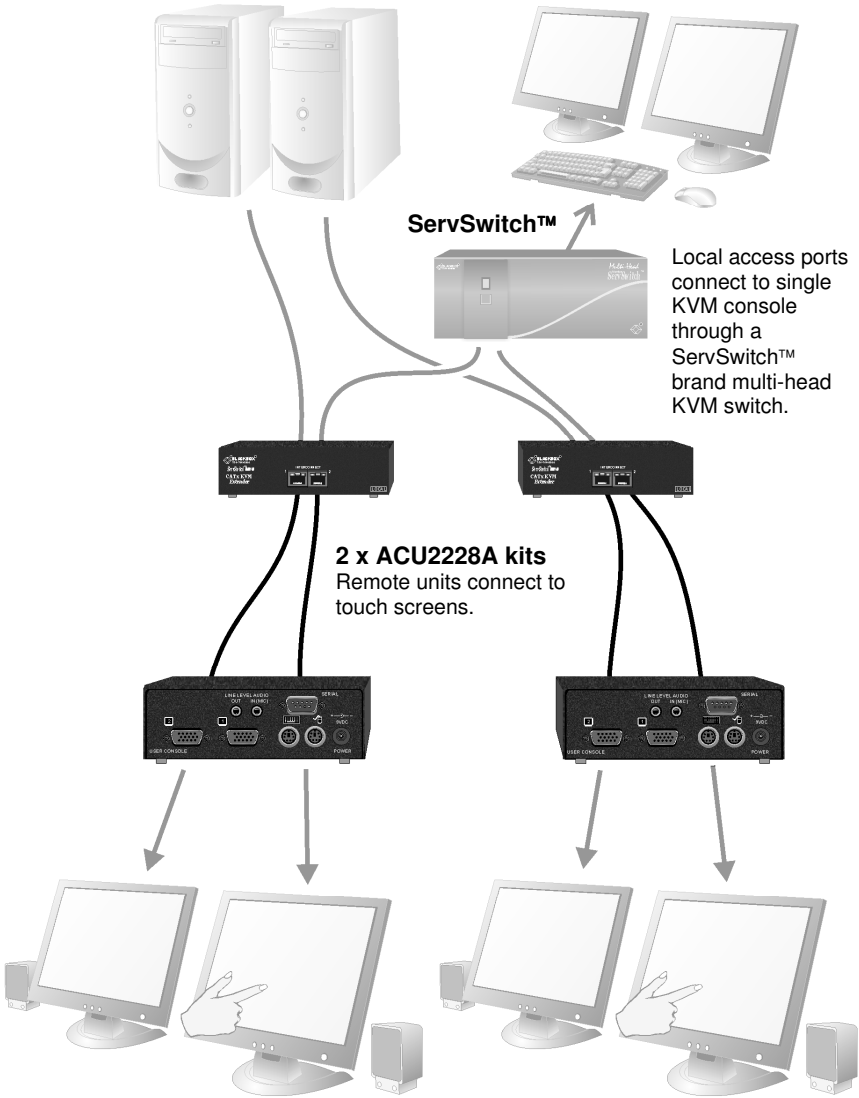

Figure 9 Touch screen network with local access to CPU through KVM switch
- Remote serial touch screens with Local access through a KVM switch (Figure 9).